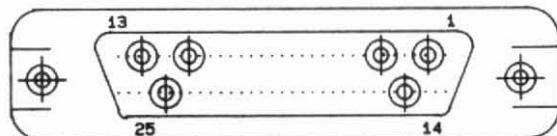

Fig. 4-1. RS-232C connector pin alignment
- (1) Fig. 4-1 and table 4-2 shows the RS-232C connector pin alignment and pin functions, respectively.